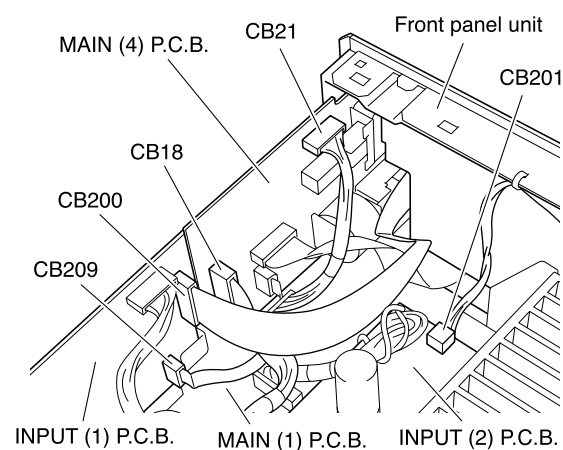

Fig. 2
- a. Remove CB18, CB21, CB200, CB201 and CB209. (Fig. 2)